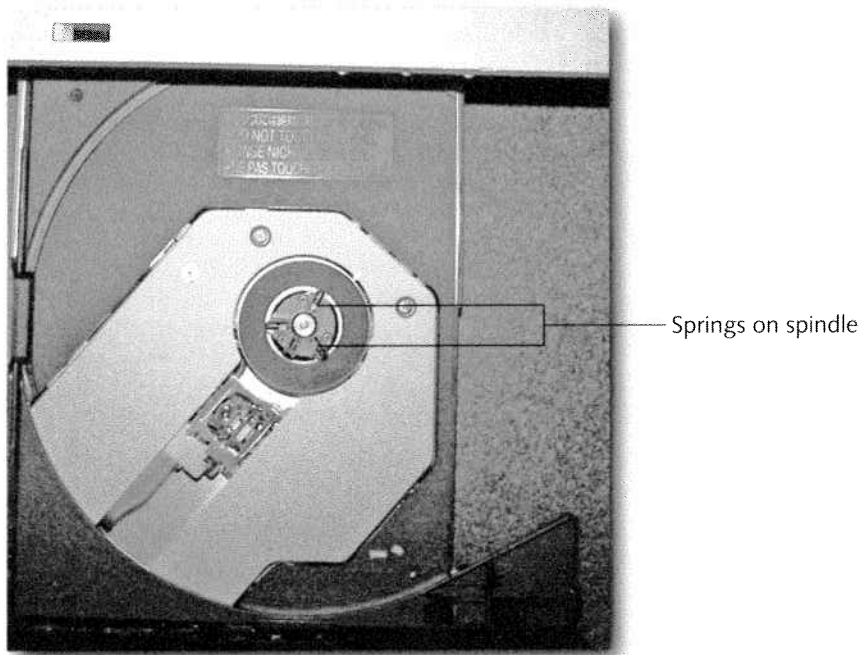

FIGURE 6-1: Spring-loaded spindle in laptop optical drive.
Laptops, on the other hand, are road warriors, literally. Their CD-ROM drives tend to have special spring-loaded spindles to prevent a CD or DVD from moving around while spinning, as shown in Figure 6-1. Their hard drives are specially designed to withstand über-shocks. I recall a few years ago when I was in an analyst meeting with IBM. They showed me their then-new 1-inch 340 MB compact-flash (CF) "microdrive," a miracle of engineering. IBM explained to me that this digital-camera-ready CF drive could be punted like a football while it was writing and there would be absolutely no data errors. They built similar technology into